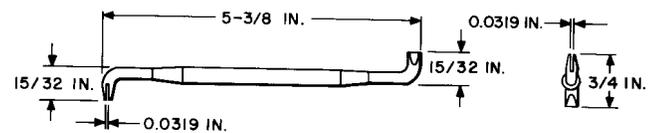

Fig. 2—AECO H-7066 Adjuster Tool
**2.02 AECO H-7066:** The AECO H-7066 tool (Fig. 2) is a spring adjuster used on step-by-step type relays and the 197- and 198-type switches.